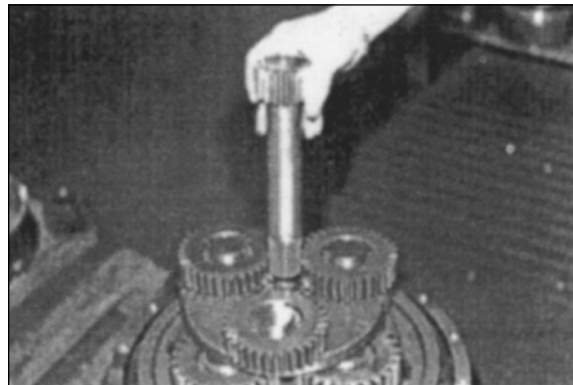

Figure 80
18. Remove first sun gear. Figure 80.